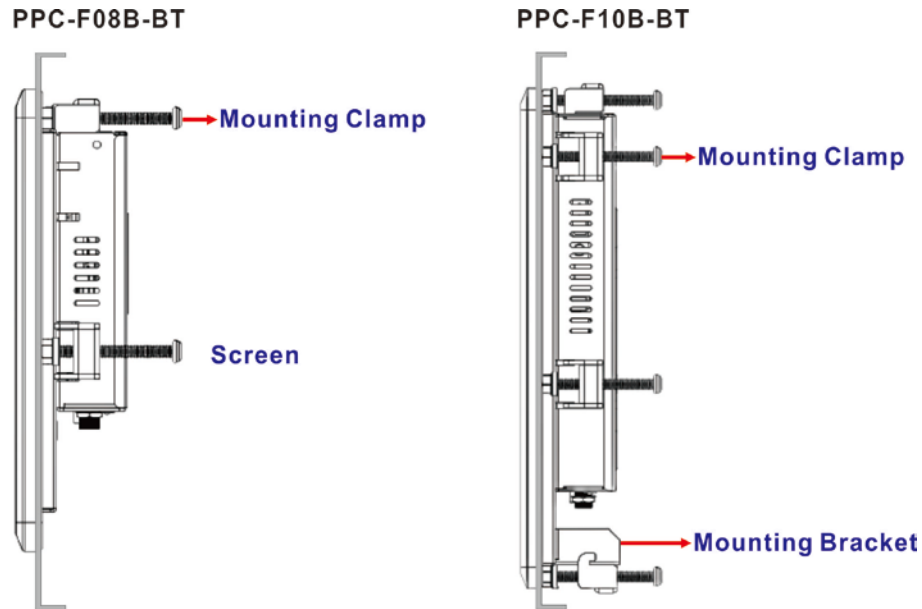

Figure 3-27: Secure the Rack/Cabinet Bracket
Step 3: Insert the mounting clamps into the mounting brackets and pre-formed holes along the edges of the PPC-F08B/F10B-BT, behind the aluminum frame (**Figure 3-27**).
Step 4: Tighten the screws that pass through the mounting clamps until the plastic caps at the front of all the screws are firmly secured to the bracket (**Figure 3-27**).